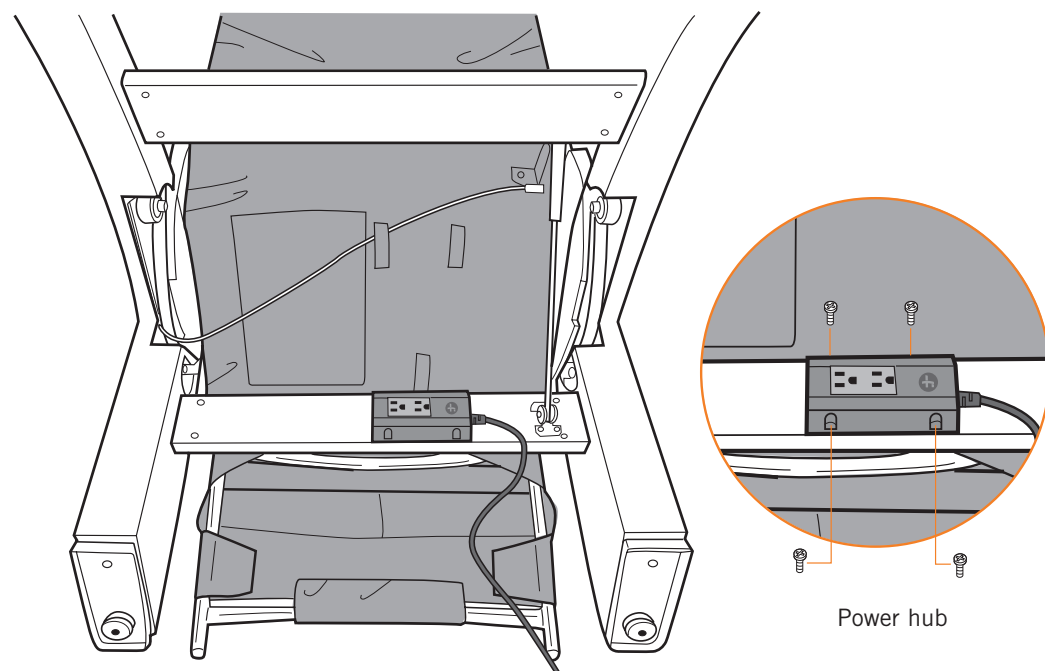

Fig.12
3. Using the provided Phillips-head screwdriver and screws, secure the power hub to the chair with the power cord facing to the right (Fig.12).